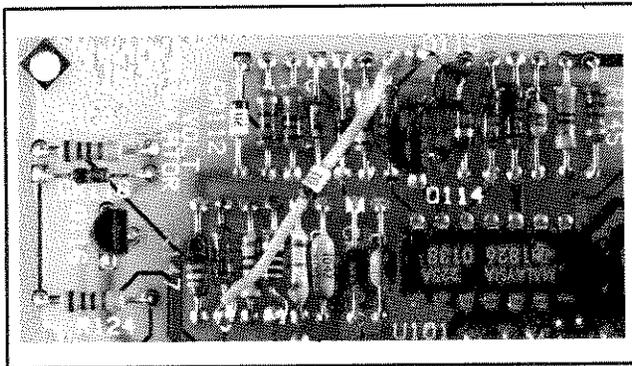

Figure 2-4. A3CR123 Installation
Read the entire set of instructions and review Figure 2-4, "A3CR123 Installation" before beginning. Review the general safety consideration and the static sensitivity topics in Section VIII of the Service Manual.
K. Wrap the lead from the cathode (the end with the stripe of A3CR123) to the A3R146 tie point. This lead should make one full turn around the tie point to insure good mechanical contact, the lead should have a slight bend to relieve stress and the end of the flexible tubing should end < .1 inch from the tie point. See Figure 2-4, "A3CR123 installation".
from the tie point. See Figure 2-4, "A3CR123 Installation."